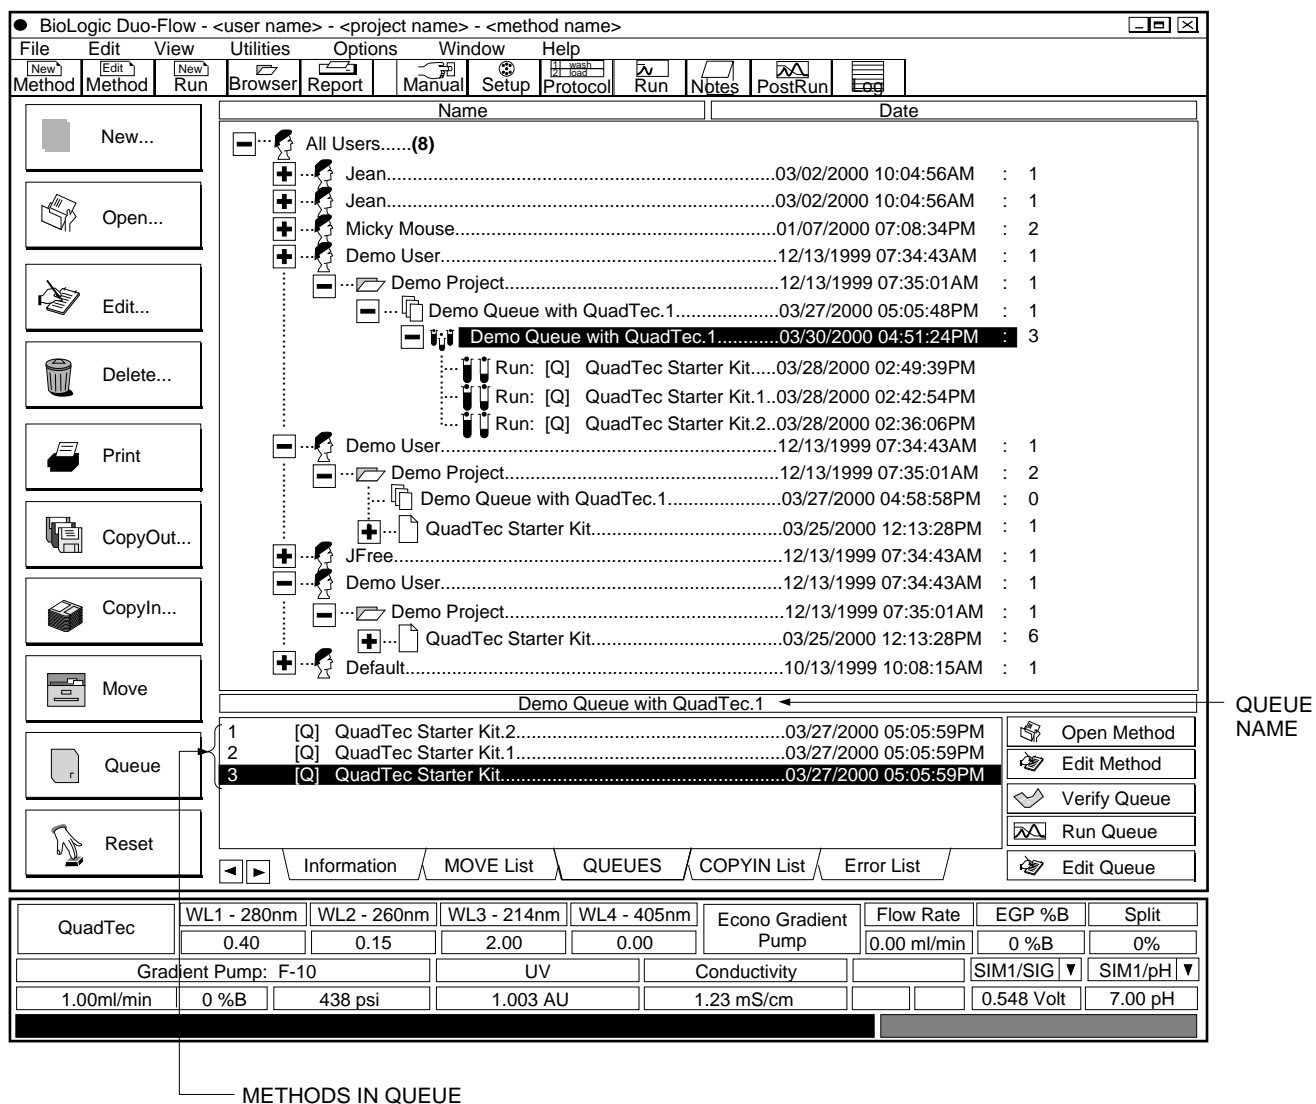

Figure 6-5. Queues Displayed in the Browser Window
3. Select the **NEW** icon from the left screen sidebar, and from the displayed menu select **New Queue**. Enter a name and description for your queue and click **OK**. Your queue name will be listed under your user and project name, and the Queue tab will appear at the bottom of the screen. (See Figure 6-5.)